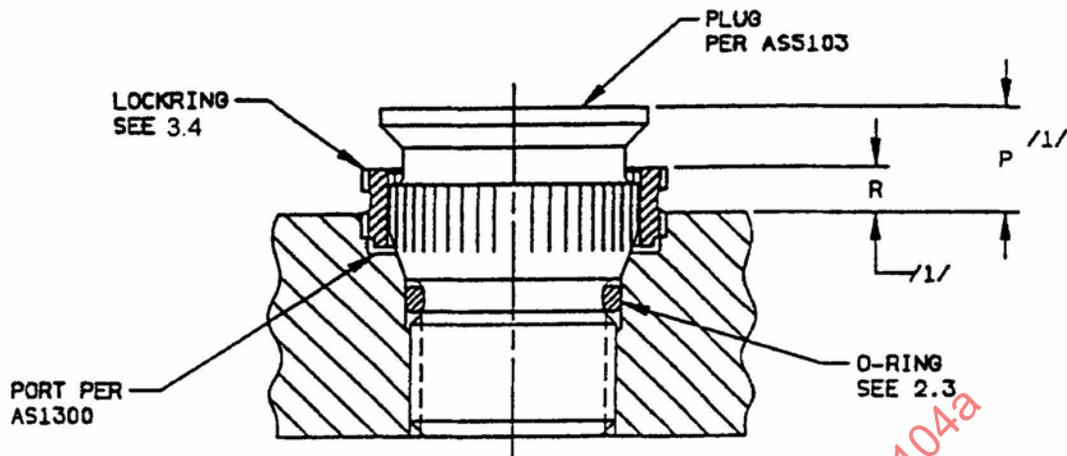

FIGURE 1 - Installed Plug
- 3.2 Plugs per AS5103 and installed per this document into ports per AS1300 shall have a stand-off per dimension "P", Figure 1 and Table 2.